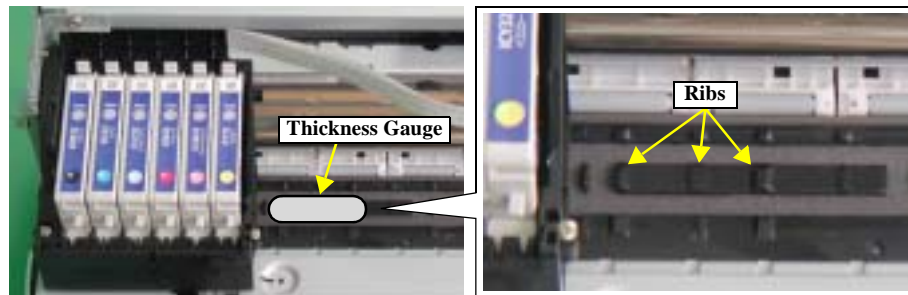

Figure 3-7. Setting Thickness Gauge
10. Move "Carriage Unit" back to the left edge of the printer, then set the Thickness Gauge (1.31mm) on the ribs (X3) of "Paper Guide, Front" in the same way as the Figure 3-7.